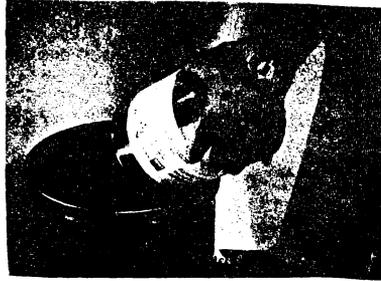

FIGURE 13
7.01 Pour the smaller container of resin (Part A) into the larger 5 gallon container of RP-6018 hardener (Part B). (See Figure 13)